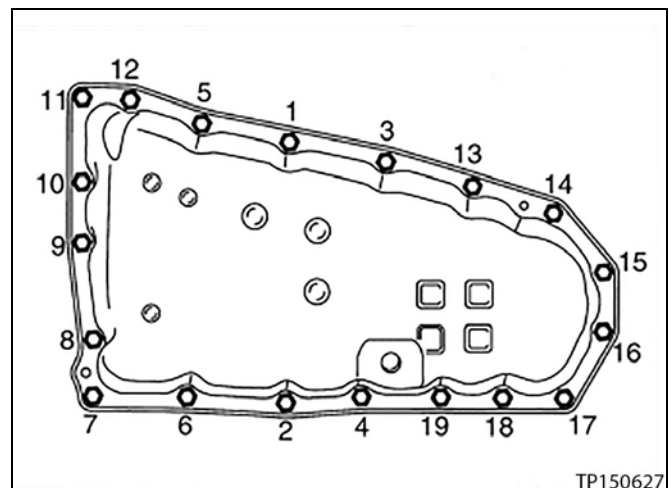

Figure 35
12. Install the oil pan bolts (see Figure 35).